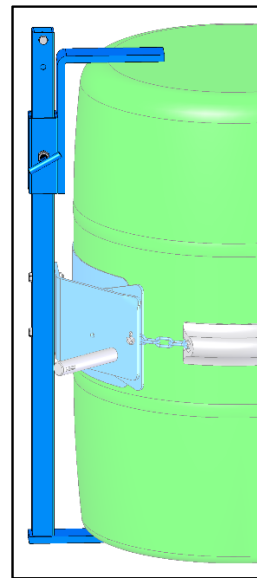

Figure 2.1
**Bracket Assembly Kit 4556-P** is required to handle a RIMLESS plastic drum (figure 2.1), and is also recommended for a fiber drum. The Bracket adjusts for a 31" to 39" (79 to 99 cm) tall drum.